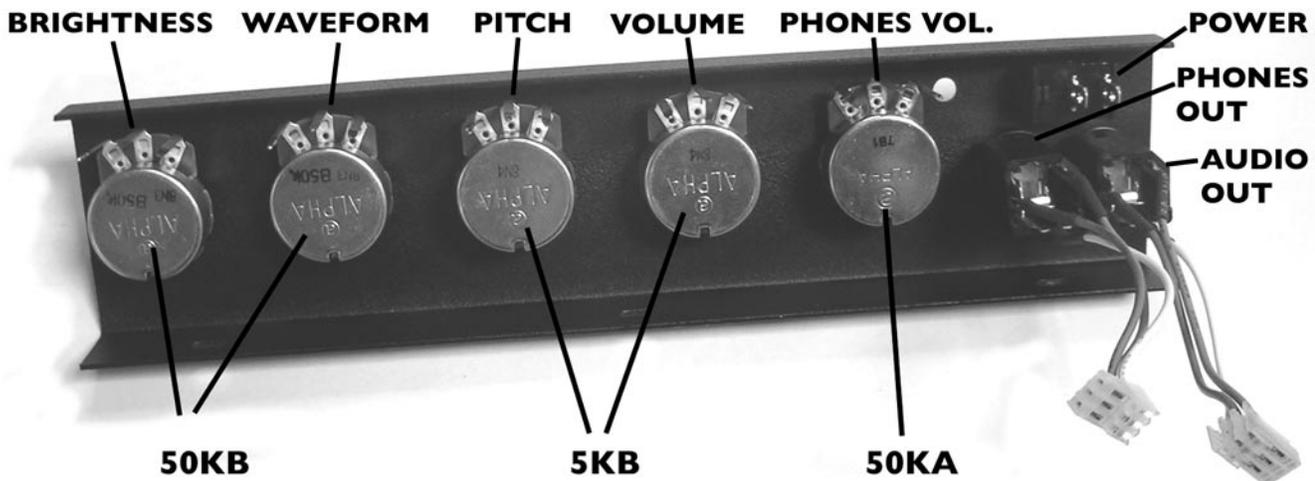

figure 6
- 8) Install the following panel components into the front panel locations listed (shown in figure 6). For the pots and jacks, use a lockwasher between the component and the inside of the panel. On the outside of the panel install the flatwasher between the nut and the panel: